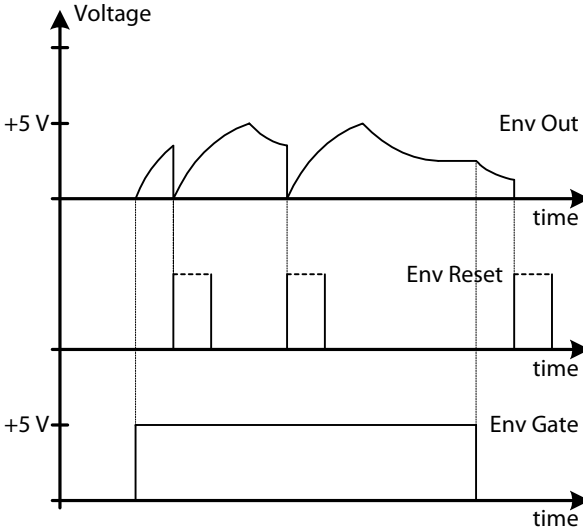

Fig. 7 Envelope reset
**Jack 12** provides the **Reset** input of the envelope generator. This jack is tied via an internal switching contact to **jack 8 (Env-Gate)**, the envelope's start input. That means with a start gate signal at **jack 8** the envelope output will be set to 0 V and return to the Attack phase, immediately, independently of any states. Fig. 7 shows the effects of a reset, independently of **jack 8 (Env-Gate)**. The duration of the reset pulse is no matter, because the reset is done within about 3 μs, so, the reset pulse shouldn't be shorter. With a plug at **jack 12**, even open ended, the internal connection to **jack 8** will be untied. The envelope curve runs up and down, continuously without any jumps.